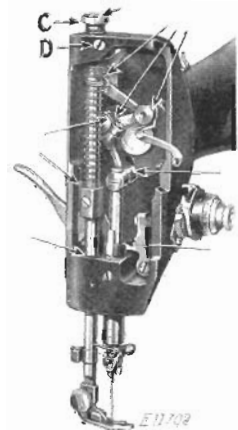

FIG. 64. END VIEW,
the face plate, and loosen the screw (D, Fig. 64) near the upper end of the face plate, then raise the face plate and slip it off over the head of the screw (D). Apply one drop of oil at each of the places indicated by arrows in Fig. 64.